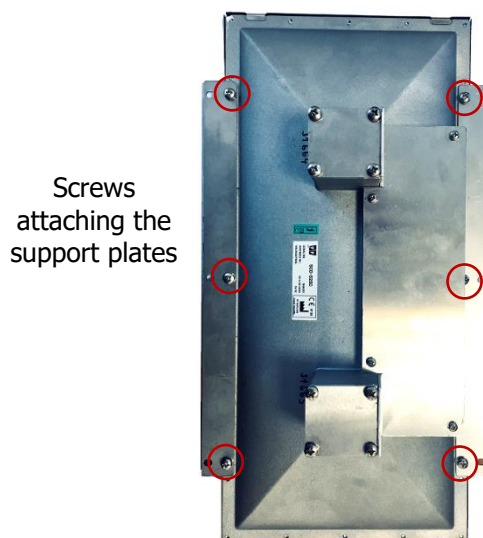

Fig. 85 Attaching the support plates of the foot detector
- Using a socket wrench No. 2.5, loosen the six screws attaching the two support plates of the detector and remove the plates (see Fig. 85)
- Install the support plates on the new detector using six socket-head screws M 4 x 6 and tighten the screws properly (see Fig. 85). The screws are equipped with spring washers and one of the screws with a fan washer.